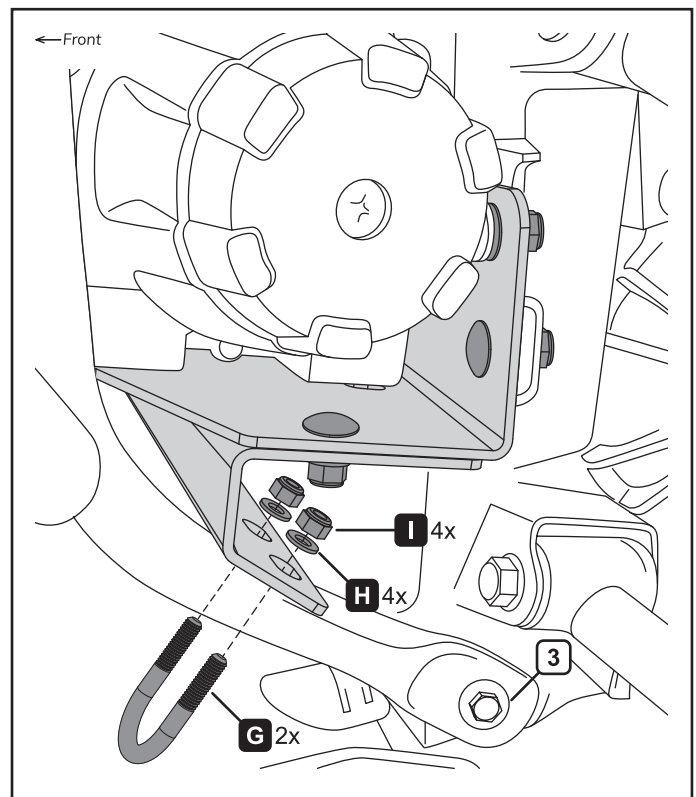

Figure 4.
5. Install the two lower bumper bolts (3) removed in step 3. See figure 4.
6. Install U-bolts (G) with washers (E) and nuts (F), as shown in figure 4.